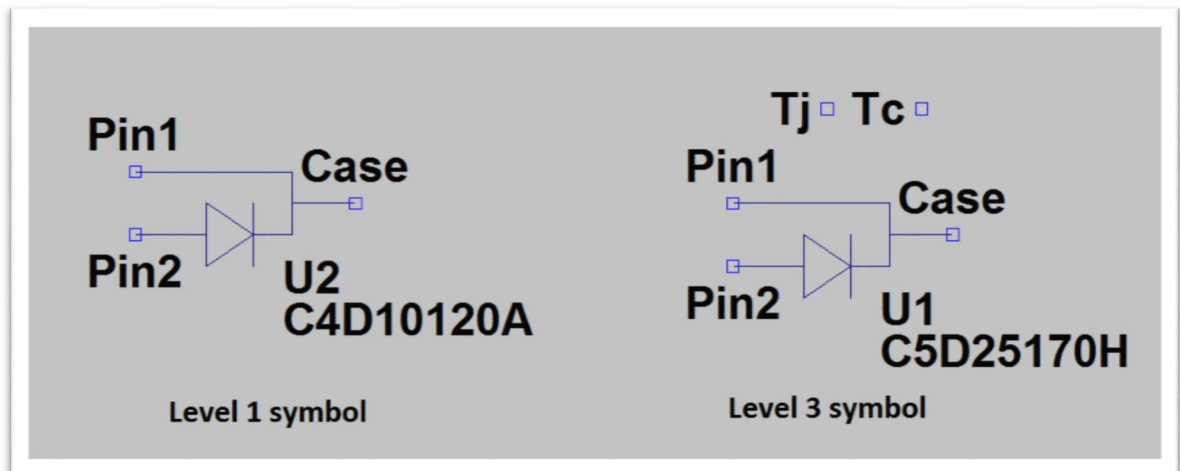

Figure 1. Device symbol in a schematic (reference purpose only).
5. The device symbol will be like the one shown in figure 1.